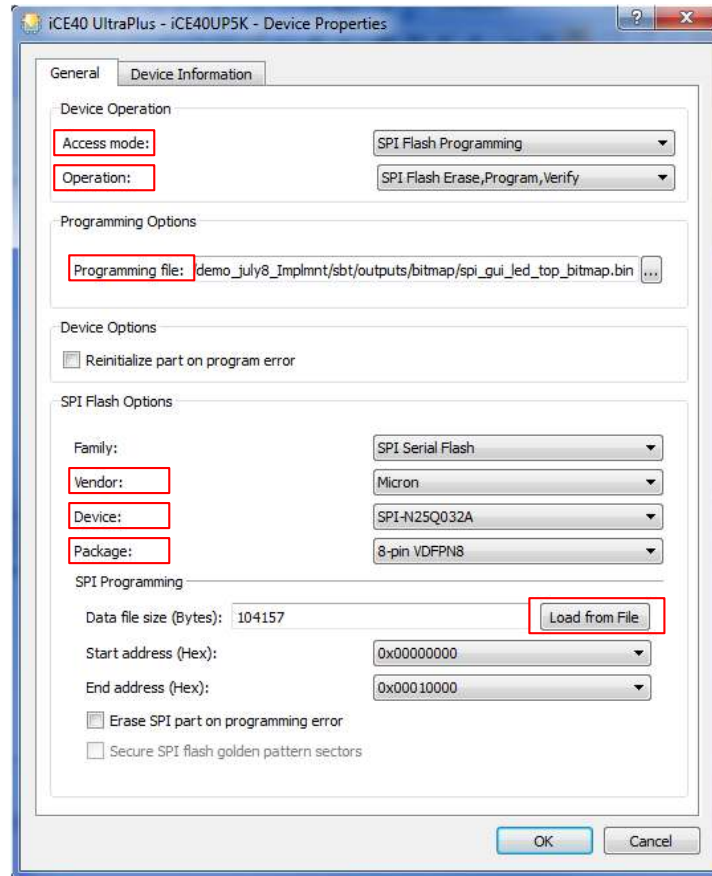

Figure 8.2. Device Property Settings for Programming Flash
5. Open the Device Properties dialog. Apply the settings highlighted in Figure 8.2.